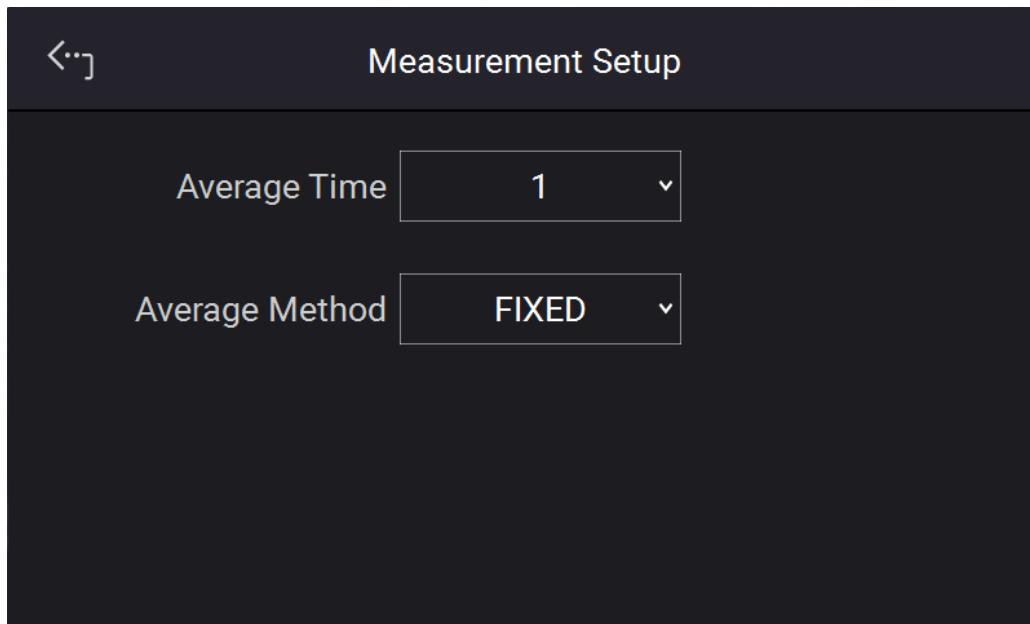

Figure 3-38
1. Tap Meas. Setting to enter into Measurement Setup as Figure 3-38 shows.